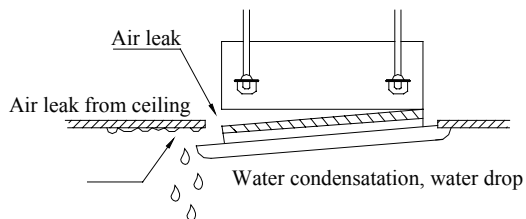

Fig.14
- ① . Improper screwing of the screws may cause the troubles shown in fig.14.